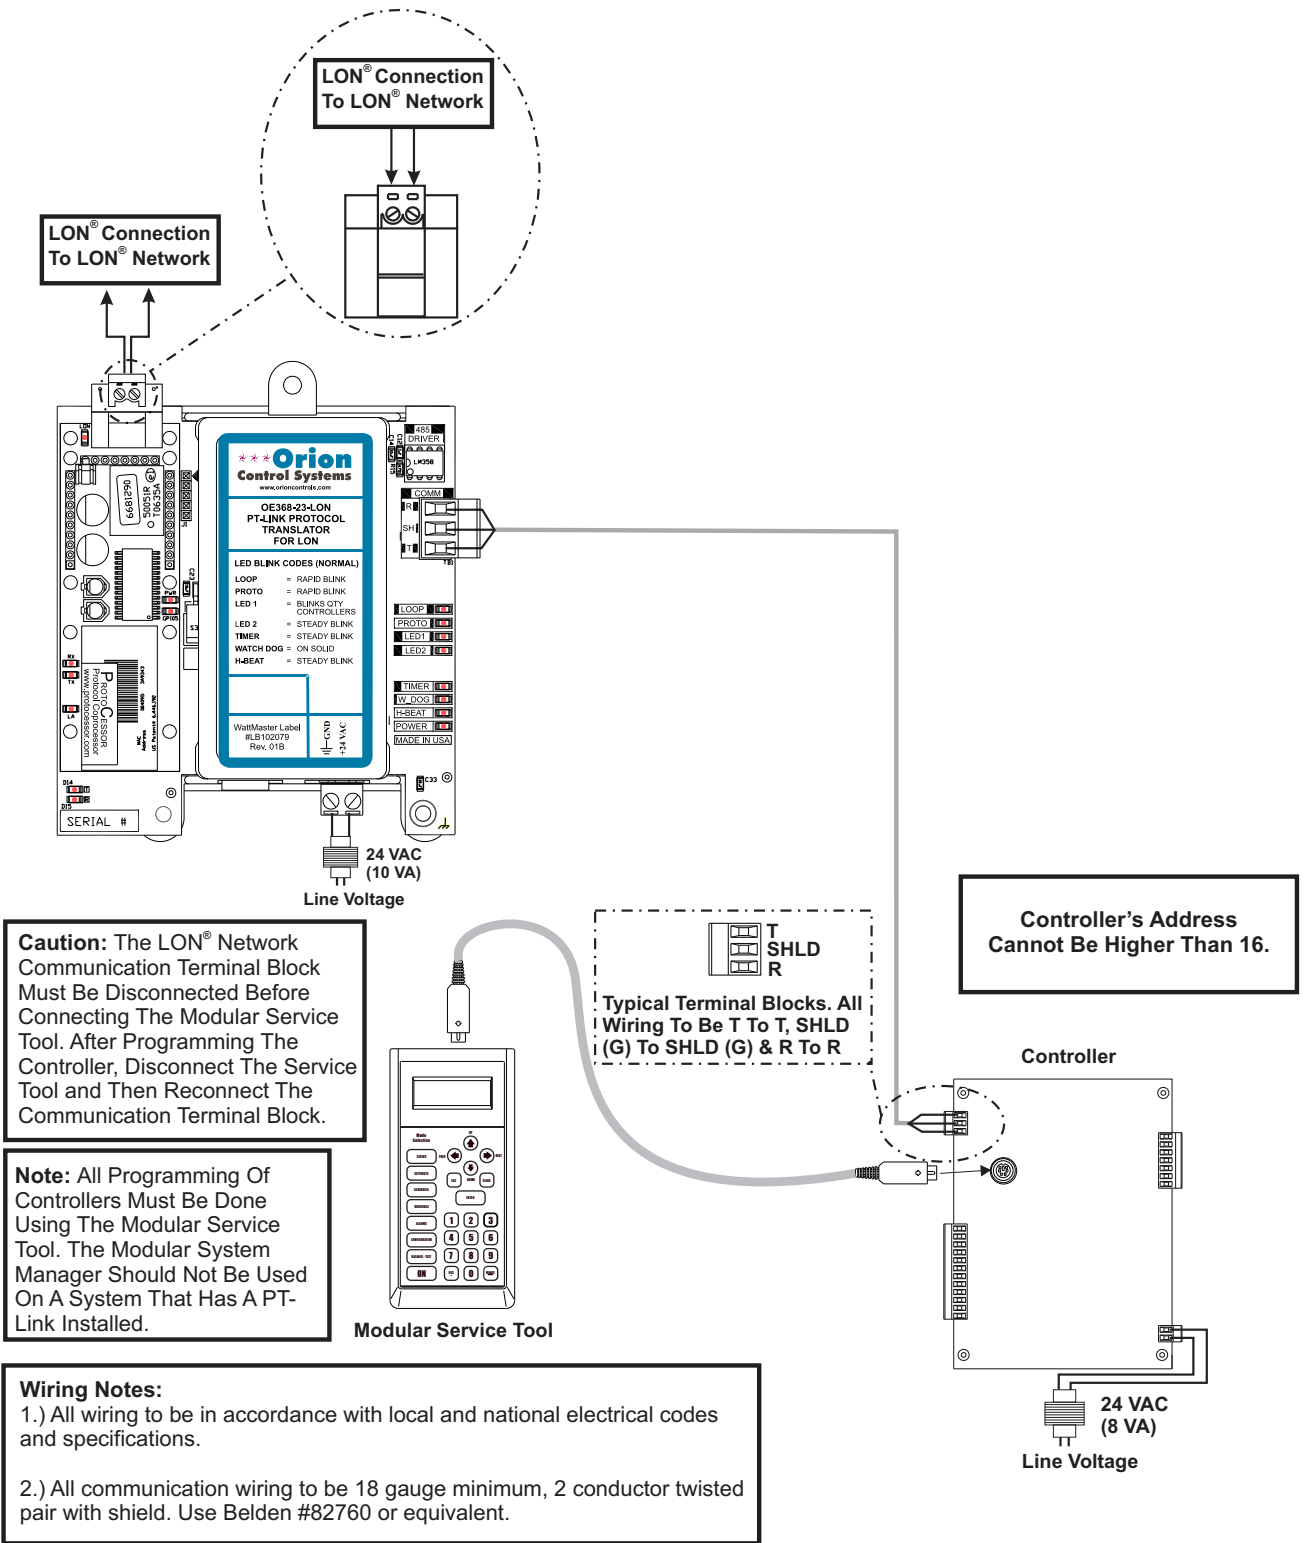

Figure 2: PT-Link II LON[®] Interface Wiring
2. Connect your PT-Link II to the Controller on your system (only one) and connect your PT-Link II to the LON Network (**Figure 2**).